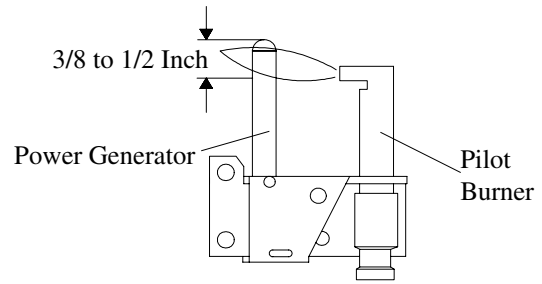

FIGURE 6. PILOT BURNER ADJUSTMENT
2. Adjust pilot key to provide properly sized flame. See Figure 6 for properly sized flame.